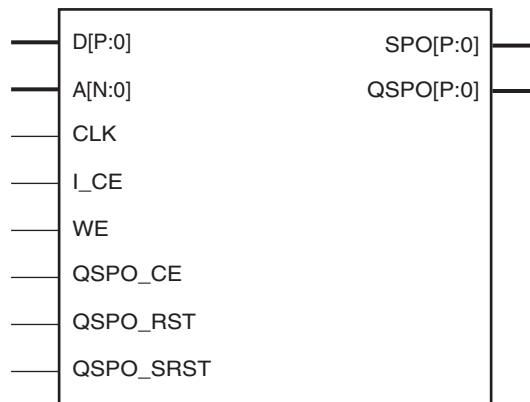
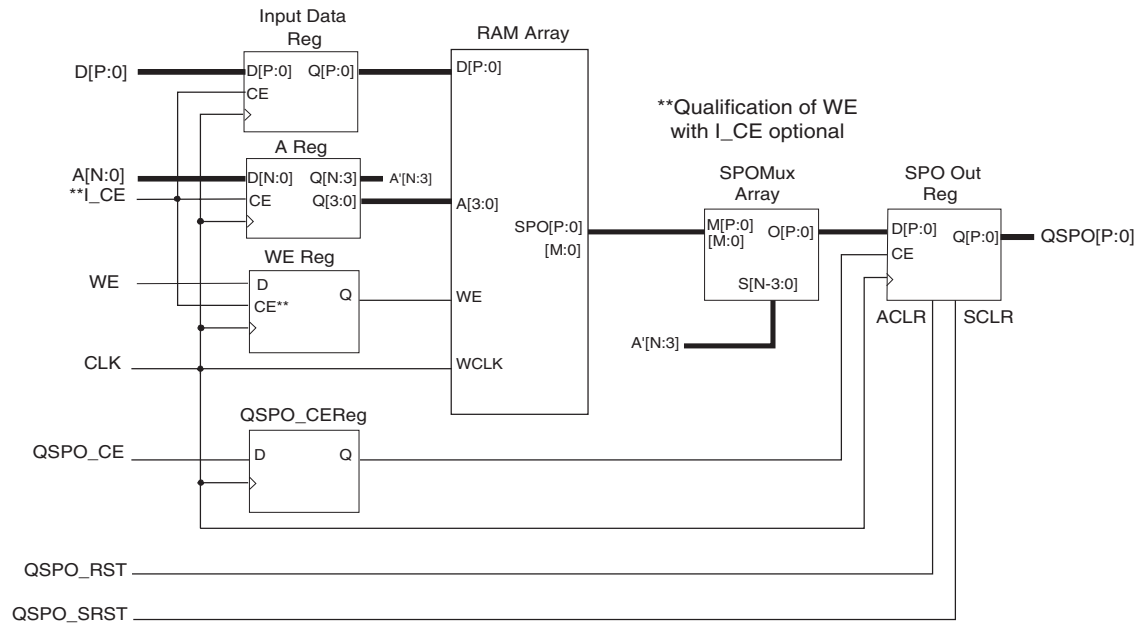

Figure 3: Distributed Single-Port RAM Schematic Symbol
Figure 4: Distributed Single-Port RAM Module Schematic
The distributed single-port RAM uses the single-port distributed RAM resource of the LUT. Writes to the Single-Port RAM are synchronous to the clock (CLK). However, read operations can be asynchronous (SPO) or synchronous to the clock (QSPO). **Figure 3** illustrates the distributed single-port RAM schematic symbol, and **Figure 4** illustrates its internal implementation. If a pipeline register is added to a registered core (not illustrated), the additional register is re-timed into the SPO MUX array. For timing information about the distributed single-port RAM, see the platform-specific user guide for the target FPGA architecture.
- **Single-Port RAM.** Figure 4 illustrates a schematic of the structure of the single-port RAM modules. The address and data registers are optional (controlled by the setting of the Input Options parameter). Output registering is also optional (controlled by the setting of the Output Options parameter). The resets and clock enables are optional. The clock CLK is always required because writes to the single-port RAM are synchronous to that clock.